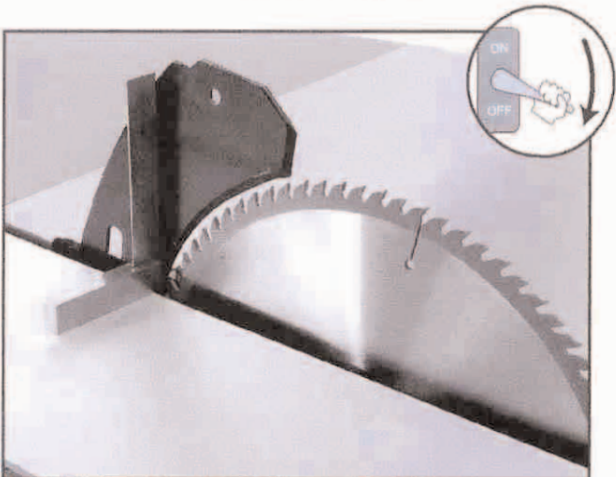

**Figure 35.** Checking riving knife alignment.
5. Check the blade alignment on both sides of the riving knife with a straightedge, as shown in **Figure 35**.